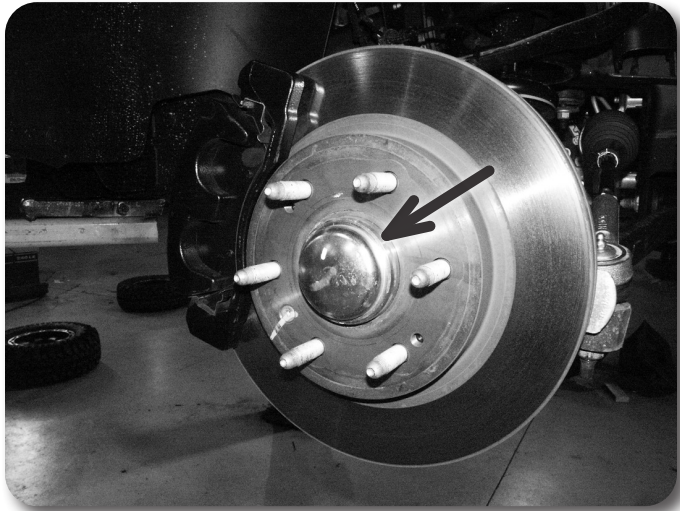

Figure 5
13. Remove the hub dust cap Figure 5. Remove the axle shaft nut. Retain nut and cap.